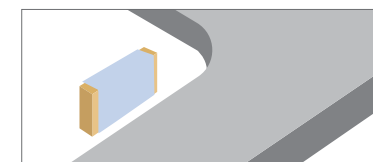

Fig.9
- Using a 180 grit sandpaper, sand the inside edge of the cut-out to remove cutting marks. (see Fig.9)